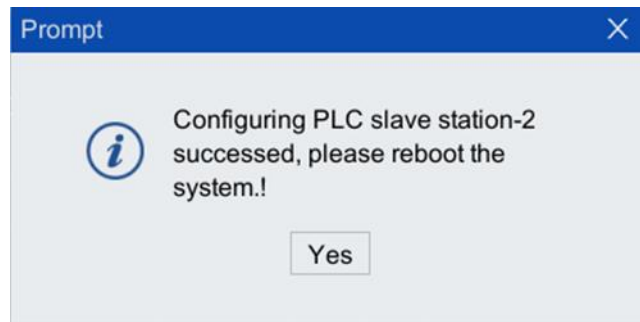

Fig. 2-19 Prompt dialog box
Step 5. After the configuration is completed, click "Confirm", a prompt dialog box will pop up, and then click "Yes", the configuration will take effect after power off and restart, as shown in Fig. 2-19.